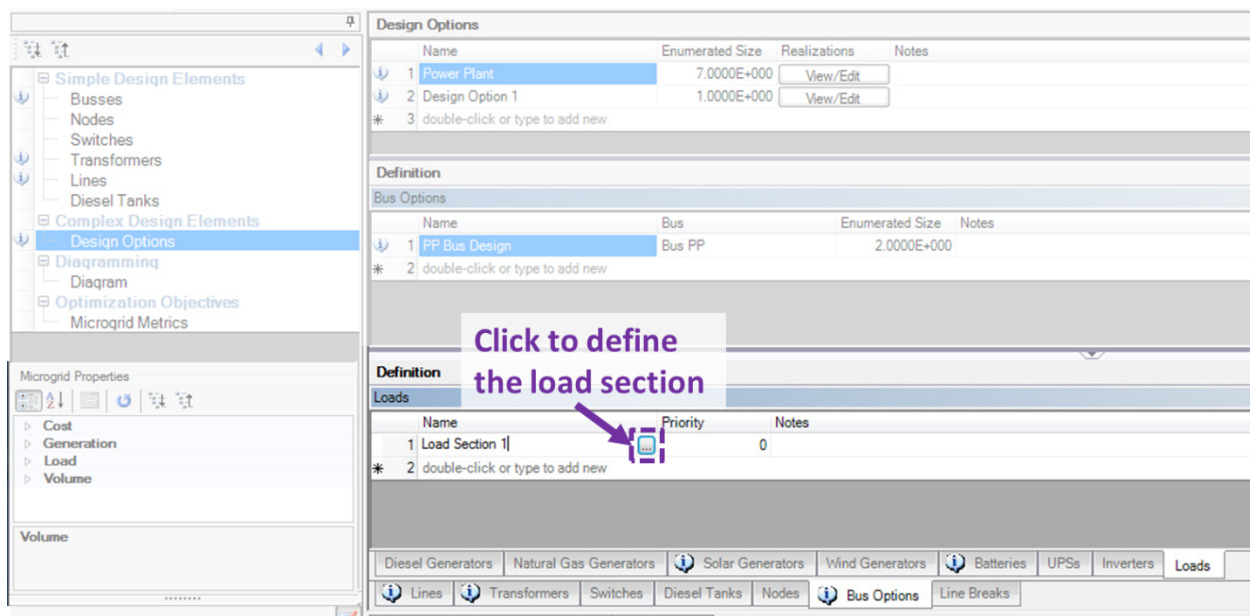

Figure 37. Click the button next to a load section name to define it.
- Electrical Loads – Click in the Name field. Click the button with three dots (highlighted in purple in Figure 37). A new window will open. Define the loads and add load data to the load section. When you have completed entering information about busses, click the “OK” button at the bottom of the screen to close the window.